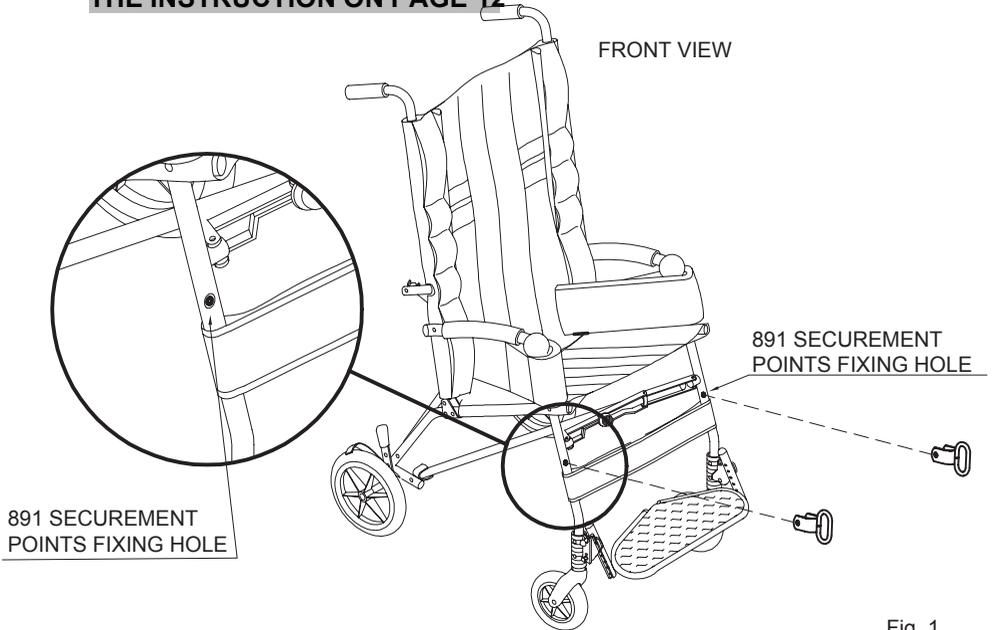
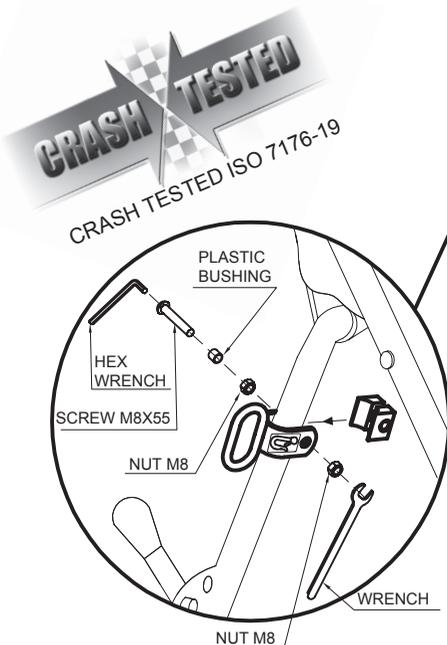

Fig. 1
Fig. 3
- **THE STROLLER MUST BE ANCHORED TO THE MOTOR VEHICLE by: 1) a four-point strap-type tiedown system that complies with ISO 10542-2, supplied by the vehicle and 2) our accessory 891 – set of 4 tie-down hooks** (see fig. 1 and 2, page 9; fig. 3, page 10 and fig. 4, page 12)